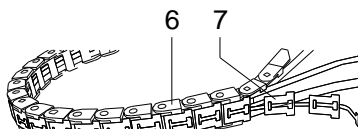

Figure 14
3. Loosen screws (5) to dismantle the energy track to one side.
4. Loosen the T-formed parts (7) from the U-formed parts (6) of the energy track (see Figure 14).
7. Close the energy track again. Press the U-formed parts (6) in the T-formed parts (7).
8. Mount again the energy track and tighten the screws (5).